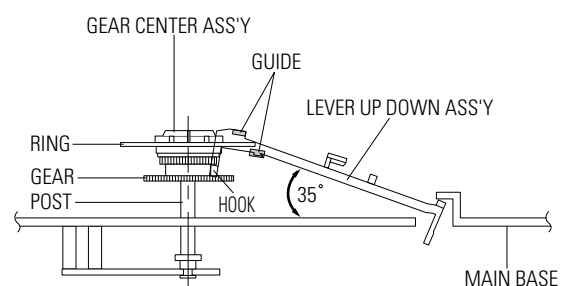

Fig. 3-22 Lever Up Down Ass'y Removal
- 1) Insert the Lever Up Down Ass'y ❶ in the rectangular holes on Main Base as shown in Fig 3-22.
- 2) Lift the Lever Up Down Ass'y ❶ about 35°. (Refer to Fig 3-22)
- 3) Insert Ring of the Gear Center Ass'y ❷ in the Guide of the Lever Up Down Ass'y ❶.
- 4) Insert the Gear Center Ass'y ❷ in the post on Main Base.
- 5) Push down the Lever Up Down Ass'y ❶ for locking of the Hook.